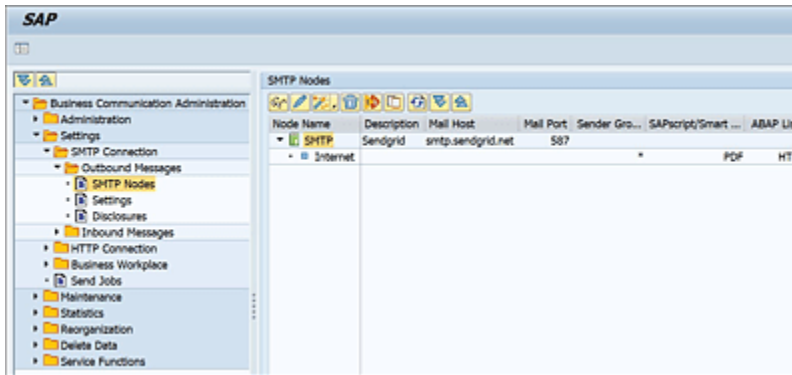

Figure 7.2 Selecting SMTP Node
2. Double-click on **SMTP**, as shown in Figure 7.2.